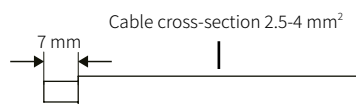

Fig. 37. Wire end stripping.
- b. Strip 7 mm of the insulation sleeve of the DC cable, as shown in Fig. 37.